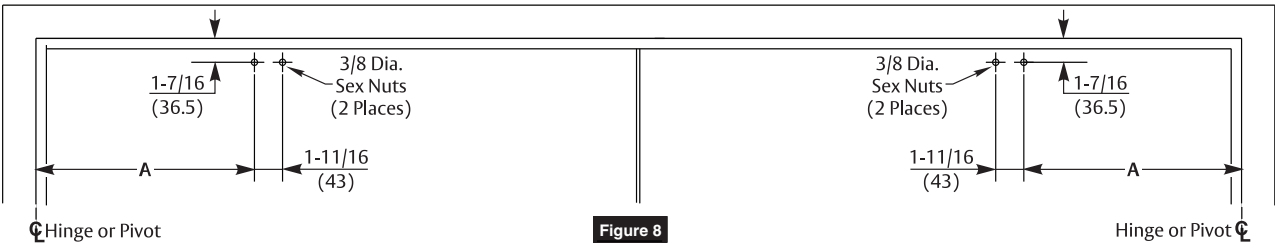

Figure 8
- 1. Locate and prepare adjusting tube and shoe holes in doors. (Figure 8)